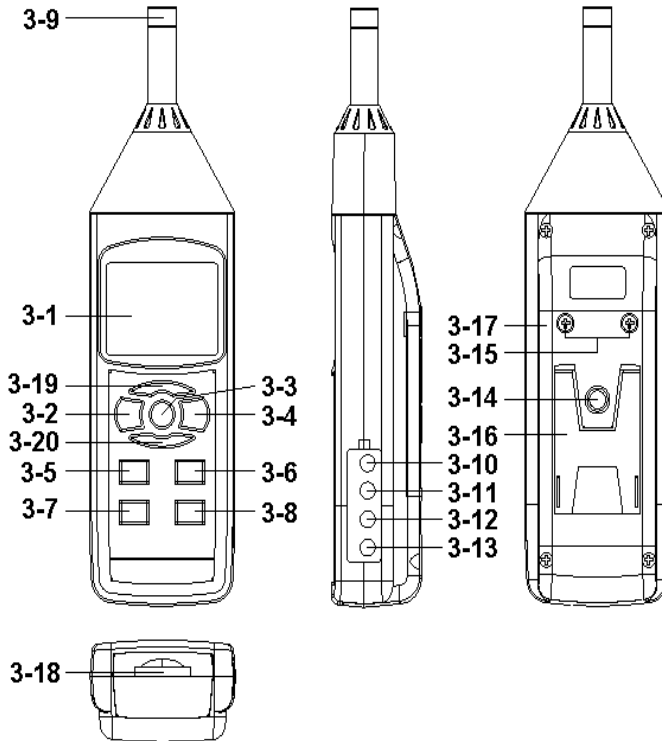

Fig. 1
- 1) Power ON the meter by pressing and holding the " Power Button " (3-2, Fig. 1)for at least 1.5 seconds, the meter's default function is " A frequency weighting , " SPL " " & " Fast time weighting "&" Auto range ". The LCD display will show the Symbol " A.SPL, FAST , AUTO ".
Power OFF the meter by pressing and holding the " Power Button " (3-2, Fig. 1) again for at least 1.5 seconds ,the meter will be OFF.
- 3) Determine proper measuring range by pressing and holding the " ▲ Button " (3-5, Fig. 1) for at least 1.5 seconds. until the desired range is shown (AUTO , 30 - 80 , 80 - 130 , AUTO) reading in the center of the range. If dashes appear on the display select a new range , After power on the default range is " Auto range " In the same time the LCD display will show the text of " Auto " Under the auto range.
pressing and holding the " ▲ Button "(3-5, Fig. 1) again range will enter to the manual range (range 1,range 2) and auto range in sequence ,There are still 2 manual ranges. for your choice :
- 4) According to various measuring sound source, select the Time Weighting (Fast or Slow or PEAK Fast) by pressing and holding the "▼ (Time Weighting) Button " (3-6, Fig. 1).
- 1) Power ON the meter by pressing and holding the " Power Button " (3-2, Fig. 1)for at least 1.5 seconds, the meter's default function is " A frequency weighting , " SPL " " & " Fast time weighting "&" Auto range ". The LCD display will show the Symbol " A.SPL, FAST , AUTO " .
- 2) Select the **Leq** mode by pressing and holding the " INTEG TIME button" (3-20 Fig 1)>2 sec. select to the Leq MODEL .
- 4) According to various measuring sound source, select the Time Weighting (Fast or Slow) by pressing and holding the "▼ (Time Weighting) Button " (3-6, Fig. 1).
Change the run time by pressing the" INTEG TIME button" (3-20 Fig . 1) once, The run time will appear in the LCD below , then Press the " ▲ button"(3-5 Fig . 1) o r "▼ button" (3-6 Fig . 1) button to select the preset time setting.
if want to do **Leq** data logger , Press" Enter button"(3-8 Fig . 1) > 1.5 seconds , into data logger function , then to execute the following actions.
1. Press" ▶/||/■ button"(3-19 Fig . 1) once to begin measuring, The run time counter will zero and begin counting While running the meter will Show " ▶ " Symbol at the display.
2. When the " ▶/||/■ " button"(3-19 Fig . 1) is pressed again, the measurement will pause and the display will show " || ", At the same time " ▶ " Symbol Disappear.
- 6) When Integrating Time set to zero ,push " ▶/"/■ button " (3-19 Fig . 1) once, meter to begin integral measurement,At the same time meter will Show " ▶ " Symbol at the display The run time counter will zero and begin counting While running the meter will Show " ▶ "Symbol at the display.
- When the " ▶/"/■ button"(3-19 Fig . 1) is pressed again, the measurement and Integrating time counter will automatically stop , and the display will show and hold Integrating reading and show " ■ " Symbol, at the same time " ▶ " Symbol Disappear.
During the measurement, press the " Hold Button " (3-3, Fig. 1) once will hold the measured value & the LCD will display a " HOLD " symbol.
- 1) The data record function records the maximum and minimum readings. Press the " REC Button " (3-4, Fig.1) once to start the Data Record function and there will be a " REC " symbol on the display.
- a) Press the " REC Button " (3-4, Fig. 1) once, the " REC MAX " symbol along with the maximum value will appear on the display.
- b) Press the " REC Button " (3-4, Fig. 1) again, the " REC MIN " symbol along with the minimum value will appear on the display.
After power ON, the " LCD Backlight " will light automatically. During the measurement, press the " Backlight Button " (3-2, Fig. 1) once will turn OFF the " LCD Backlight " .
Prepare a " SD memory card " (1 GB to 16 GB, optional), insert the SD card into the " SD card socket " (3-18, Fig. 1). The front panel of the SD card should face against the the down case.
Press the " ENTER Button (3-8, Fig. 1) over 2 seconds into datalogger mode , The LCD will show the text "LOGGER" and flashing , at the same time the measuring data along the time information will be saved into the memory circuit.
During execute the Datalogger function , if press the " ENTER Button " (3-8, Fig. 1) once will pause the Datalogger function (stop to save the measuring data into the memory circuit temporally). In the same time the text of " LOGGER " will stop flashing.
If press the " ENTER Button " (3-8, Fig. 1) once again will execute the Datalogger again, the text of " LOGGER " will flashing .
During pause the Datalogger, press the " ENTER Button " (3-8, Fig. 1) continuously at least two seconds, the " LOGGER " indicator will be disappeared and finish the Datalogger.
Press the " ENTER Button (3-4, Fig. 1) at least 1.5 seconds , the LCD will show the text " LOGGER and P = no ", then press the " ENTER Button " (3-8, Fig. 1) once, the " LOGGER " will flashing once, at the same time the measuring data along the time information, will be saved into the memory circuit.
- * **During execute the Manual Datalogger, press the " ▲ Button " (3-5, Fig. 1) or " ▼ Button " (3-6, Fig. 1) to set the measuring position (1 to 99, for example room 1 to room 99) to identify the measurement location.**
Press the "ENTER Button " (3-4, Fig. 1) continuously at least two seconds, the " LOGGER " indication will be disappeared and finish the Datalogger.